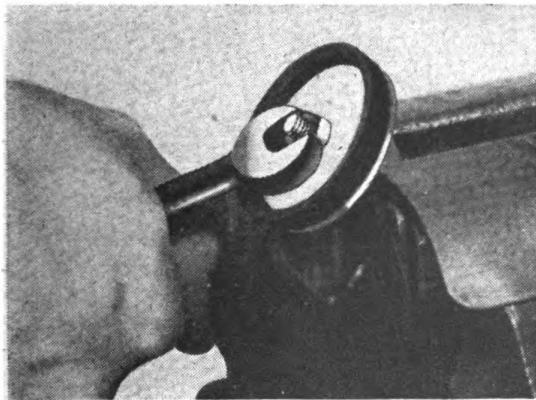

Figure 209
(2) If leather cannot be put into good condition by working oil into it, replace with a new one (See Figure 209).